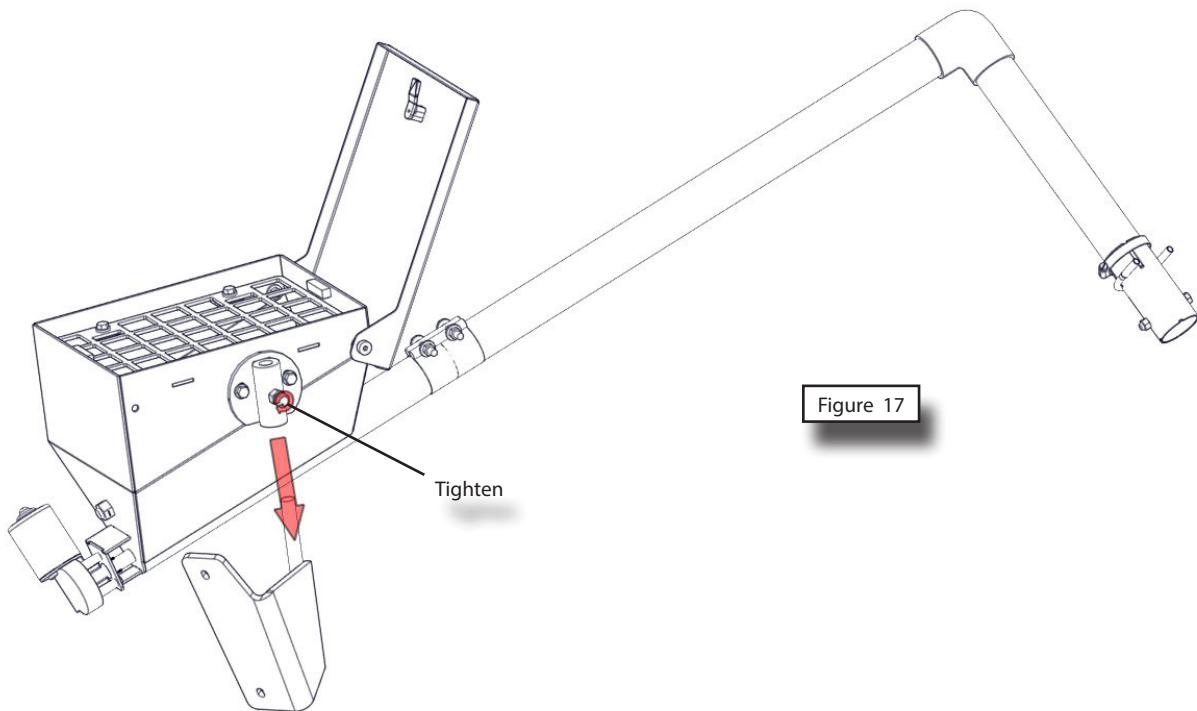

Figure 17
- Slide the Talc Box Spool over the mounting bracket rod. (Figure 17)
- Tighten the 1/2" x 1" spool bolt and 1/2" lock nut. (Figure 17)